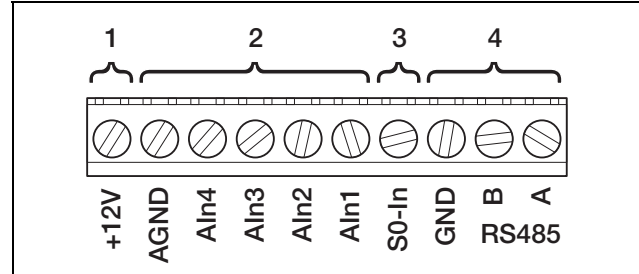

Fig. 46: Cable terminal
- Connect the lines to the terminal according to the connection assignment (figure 46 and table 9).
Connections for the serial **RS485 interface** are found on the terminal for analogue interfaces (figure 46). Using RS485, up to 200 inverters - depending on the inverters used - can be connected. Additional components can be connected to RS485. An additional level converter may be required in some cases. Use a shielded line for the connection.